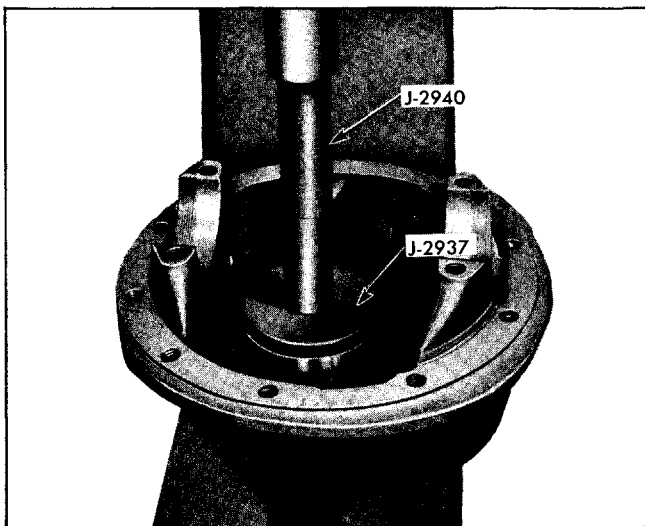

Fig. 4-35 Installing Rear Bearing Outer Race With Installer J-2937 and Handle J-2940
17. Place pinion adjusting shims against shoulder in carrier; press rear bearing outer race against shims and shoulder using Installer J-2937 and Handle J-2940 (Fig. 4-35).